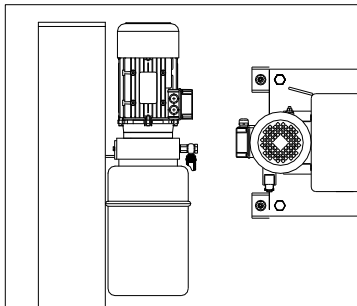

Fig.37
1. Install the pump on the hock board according to Fig.37 and fix it on the bottom of main column.